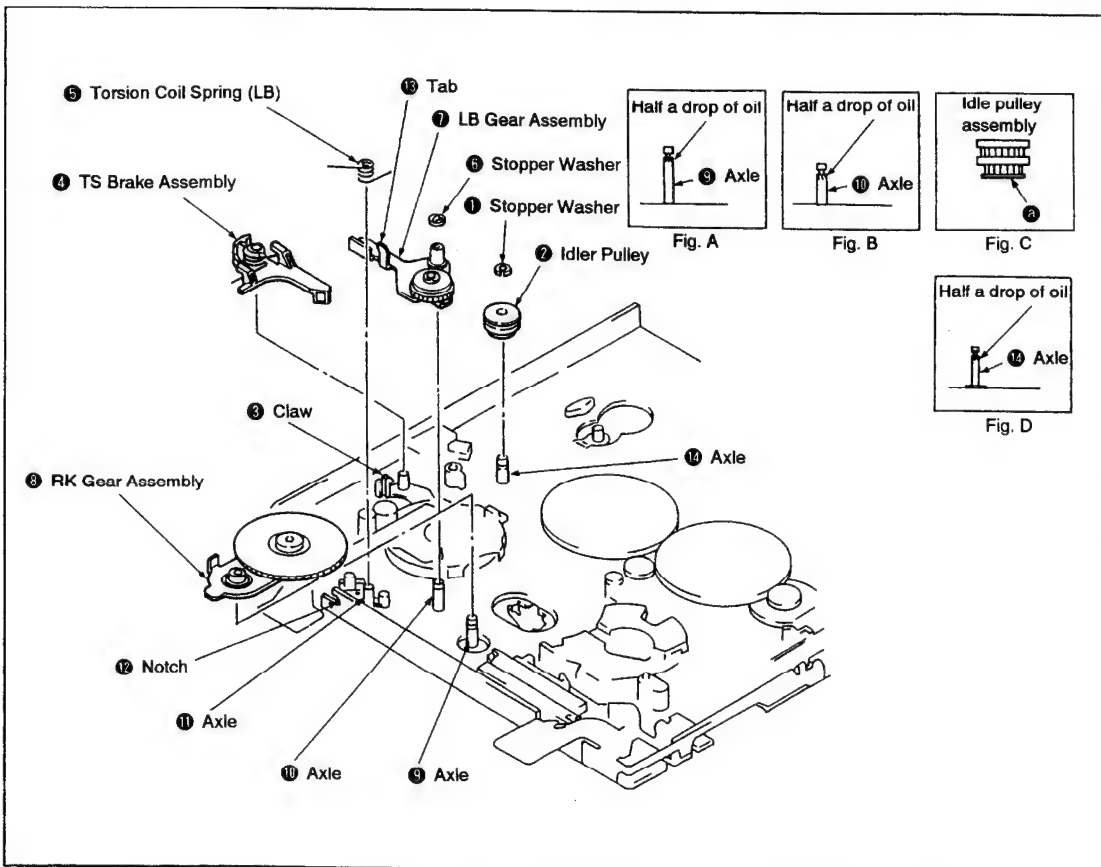

Fig. 3-17.
1. Removal (See Fig. 3-17.)
2. Installation (See Fig. 3-17.)